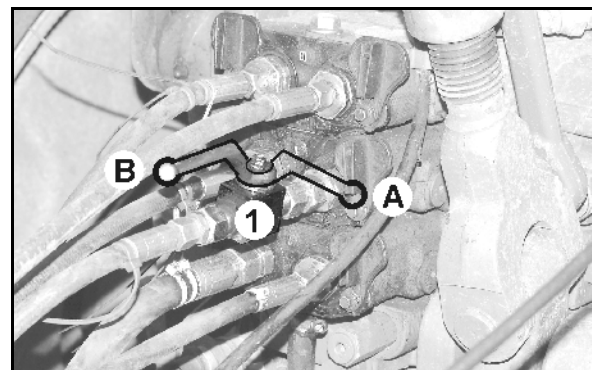

Fig. 41
2. Open the ball valve (Fig. 41/1) (position B).